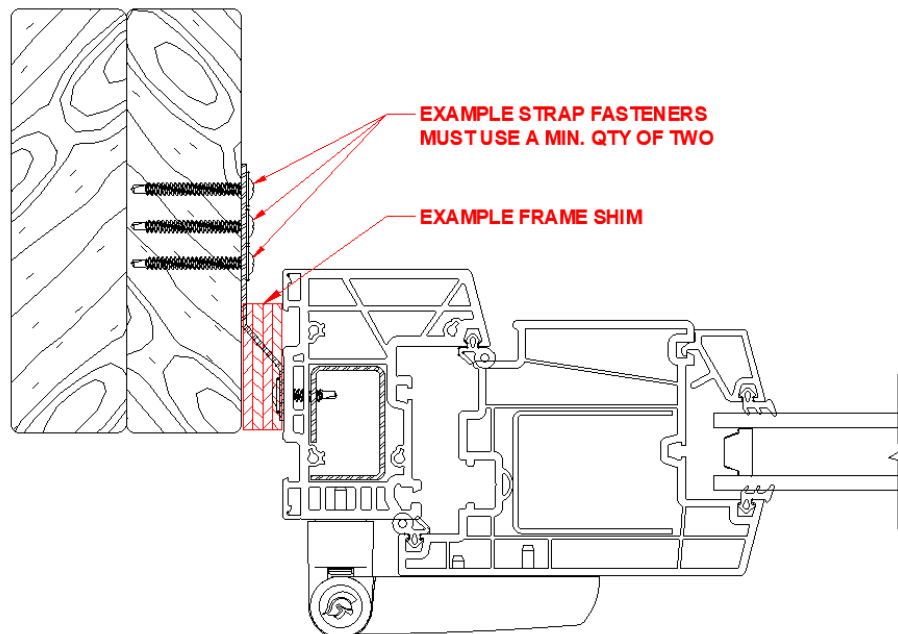

Figure 20: Example of Correctly Shimmed & Fastened Door
- III) Fasten the straps of the door using fasteners as indicated in section 5.1 B, I, to the rough opening following the same routine outlined in 5.5, A, starting at the hinged side establishing a plumb frame free of any twisting or distortion. Bend the strap as needed using the bend points illustrated in figure 20 to eliminate torsion on the frame.